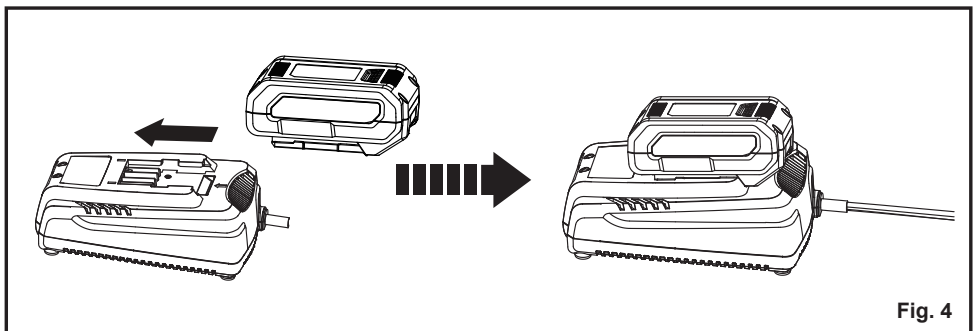

Fig. 4
1. Align the slot of the battery pack with the rail on the charger. Slide the battery onto the rail until the battery pack secures into place (Fig. 4).